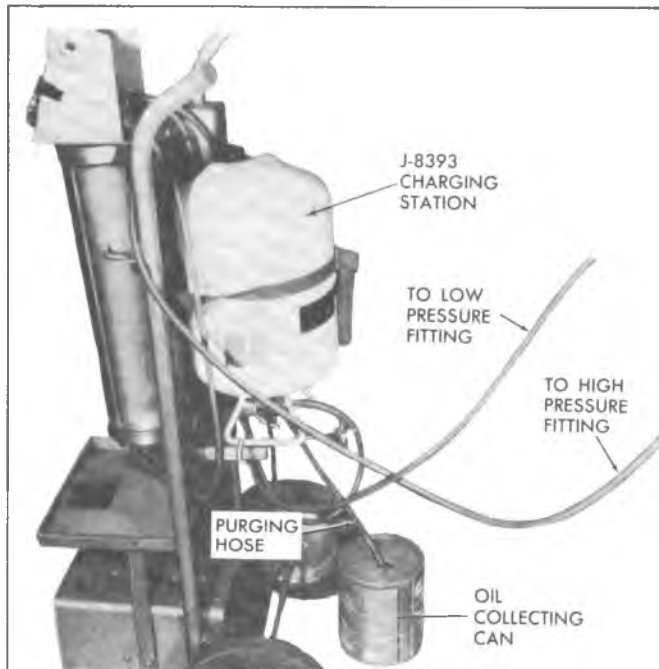

Fig. 27—Collecting Refrigerant Oil During "Purging"
2. Disconnect vacuum line at Charging Station vacuum pump and put the line in a covered can as shown in Figure 27.